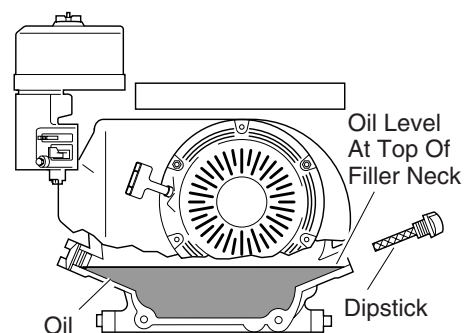

Figure 7 - Checking Oil Level (Model MGH4000C Shown)
- Remove dipstick (see Figure 7). Wipe dipstick clean.
- If level is low, fill to top of oil filler neck (see Figure 7). For Model MGH10000A only, fill to top dot on dipstick. Only use oil recommended in engine owner's manual.